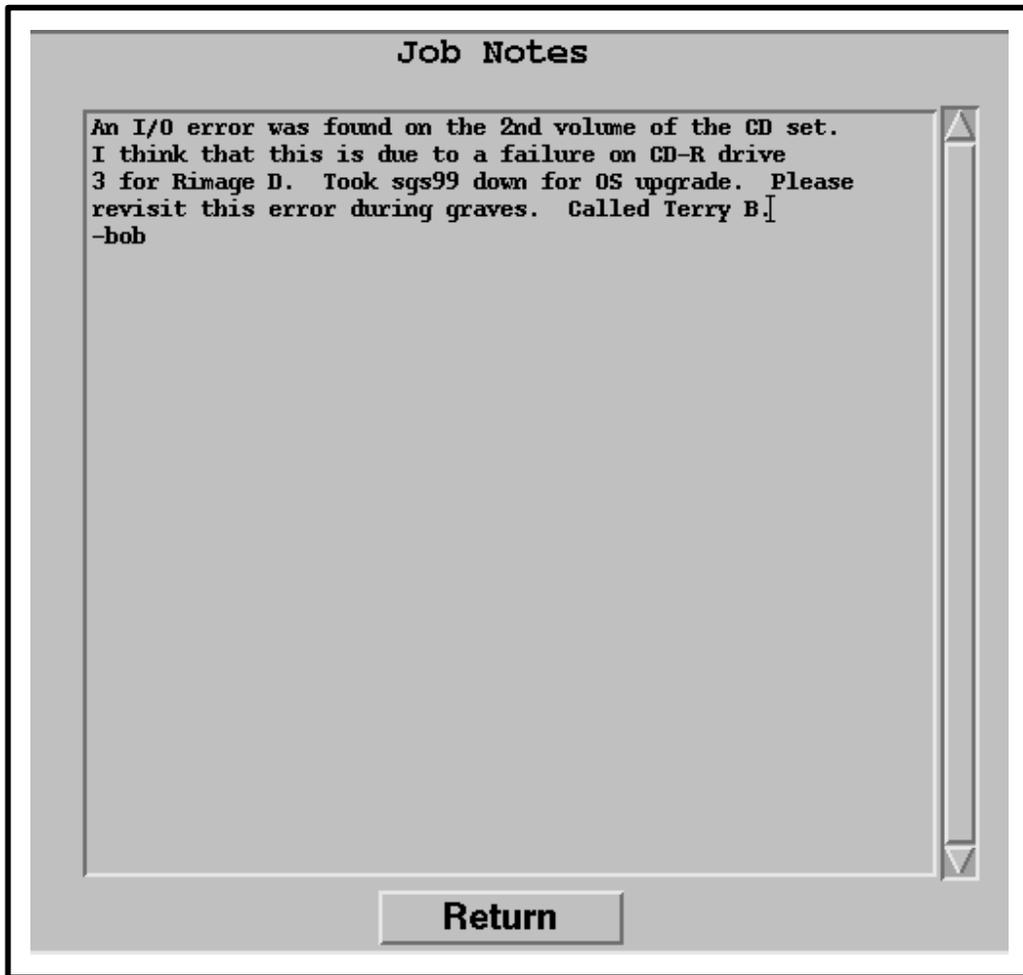

Figure 41. Job Notes Dialogue Box
- The **Job Notes** dialogue box (Figure 41) is displayed.